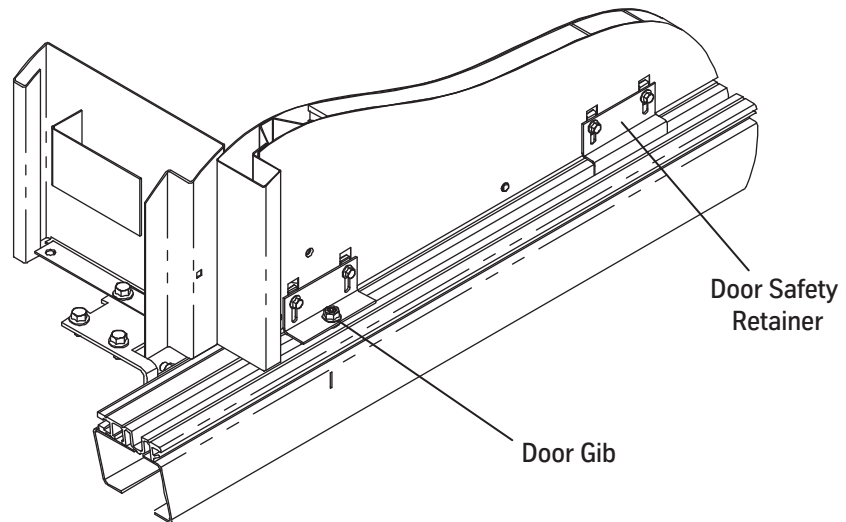

Figure 12 - Door Gibs and Safety Retainers
7. Install the door gibs and the door safety retainers. See Figure 12.